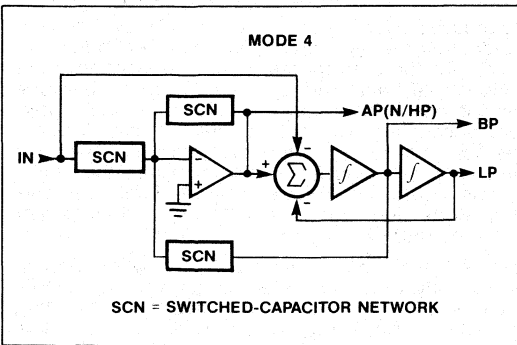

Figure 8. Filter Mode 4: Second-Order Bandpass, Lowpass and Allpass
**MODE 4** (Figure 8) is the only mode that provides an allpass output. This is useful when implementing group delay equalization. In addition to this, Mode 4 can also be used in all pole lowpass and bandpass filters. Along with Mode 1, it is the fastest operating mode for the filter, although the gains are different than in Mode 1. When the allpass function is used, note that some amplitude peaking occurs (approximately 0.3dB when  $Q = 8$ ) at  $f_0$ . Also note that  $f_0$  and  $Q$  sampling errors are highest in Mode 4 (see Figure 17).